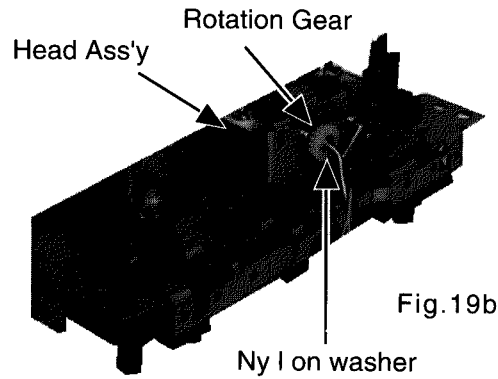

Fig.19b
3. Remove the nylon washer (Fig.19b).